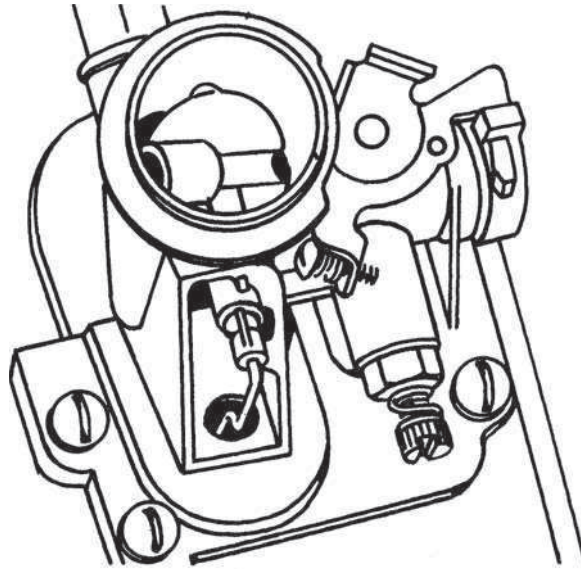

FIG. 4-9. Complete the assembly while holding the choke closed. Briggs & Stratton Corp.
4. Depress the choke butterfly with one finger and attach the actuating link (Fig. 4-9). This action preloads the diaphragm spring.